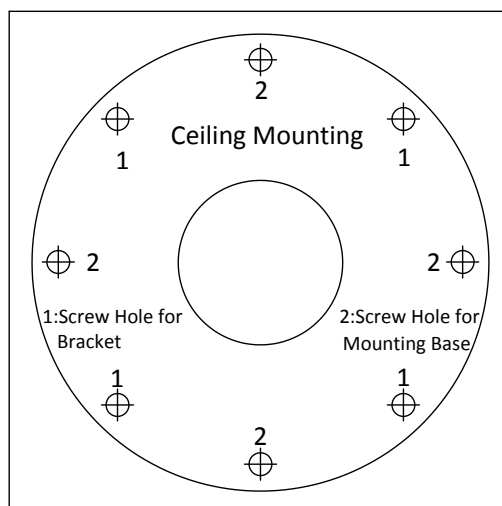

Figure 4-91 Drill Template
1. Drill the screw hole and cable hole according to the supplied drill template (shown as Figure 4-91).